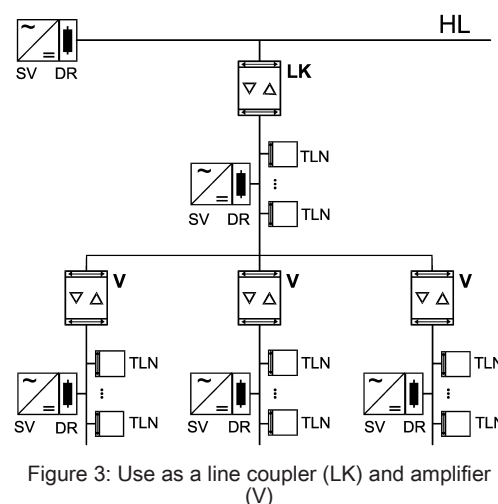

Figure 3: Use as a line coupler (LK) and amplifier (V)
Preparation and repetition of telegrams on a line, no filter function. Division of a line into max. 4 independent line segments => max. 3 line amplifiers connected in parallel per line (Figure 3). Each line segment requires a separate power supply (SV) including choke (DR).